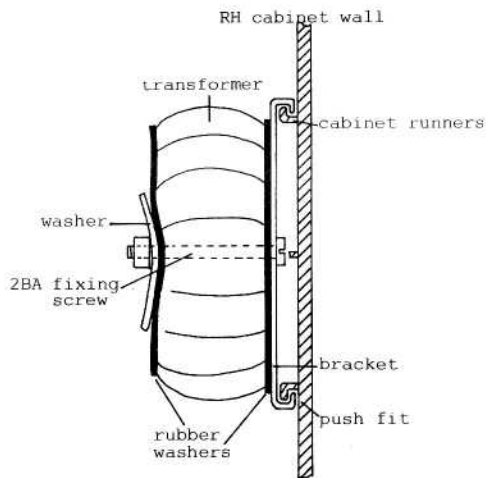

Fig.1. TRANSFORMER MOUNTING BRACKET.
To convert the set to a video/sound monitor, the receiver must first be fitted with a small mains isolating transformer^{1,2}. This transformer can mount inside the cabinet on the right hand side (from rear) or, if a DC unit is fitted, inside the rear cover. The transformer should be mounted onto a special bracket and fitted as shown in Fig.1.
- 1] Fit the mains isolating transformer as shown in Figs 1 and 2 and check that the receiver operates correctly.